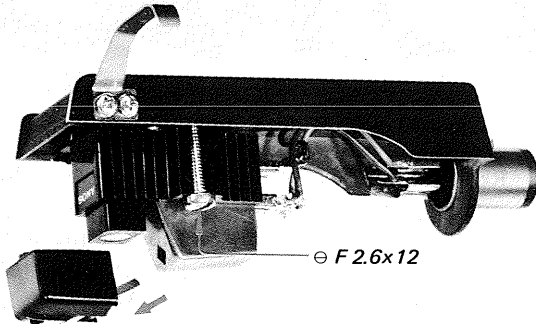

Fig. 2-4. Stylus tip and cartridge removal
1. Pull out the worn stylus tip and install the replacement tip as shown in Fig. 2-4.
2. Remove the two screws (⊖ F 2.6 x 12) (see Fig. 2-4) securing the cartridge to the shell head with a jeweler's screwdriver.